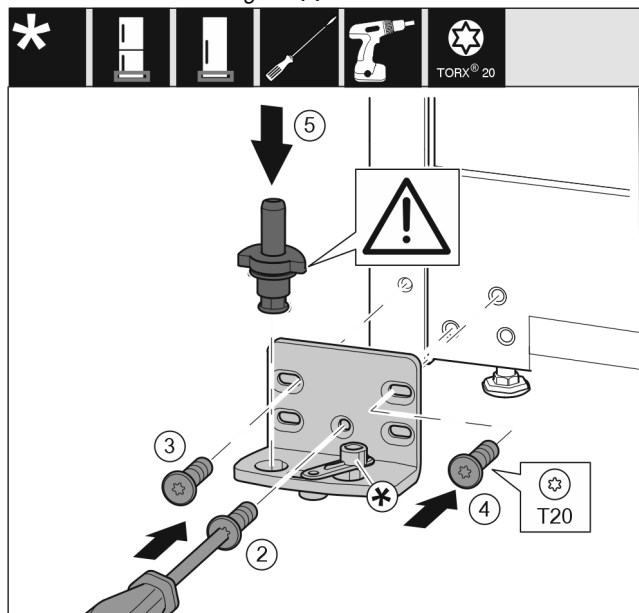

Fig. 16
- Place the bearing bracket on the other side and screw it in using the T20 screwdriver. Start with screw 2 at the bottom in the middle. Fig. 16 (2)
- Screw in screws 3 and 4. Fig. 16 (3,4)
- Insert the bearing pin completely. Make sure that the latching lug is pointing to the rear. Fig. 16 (5)